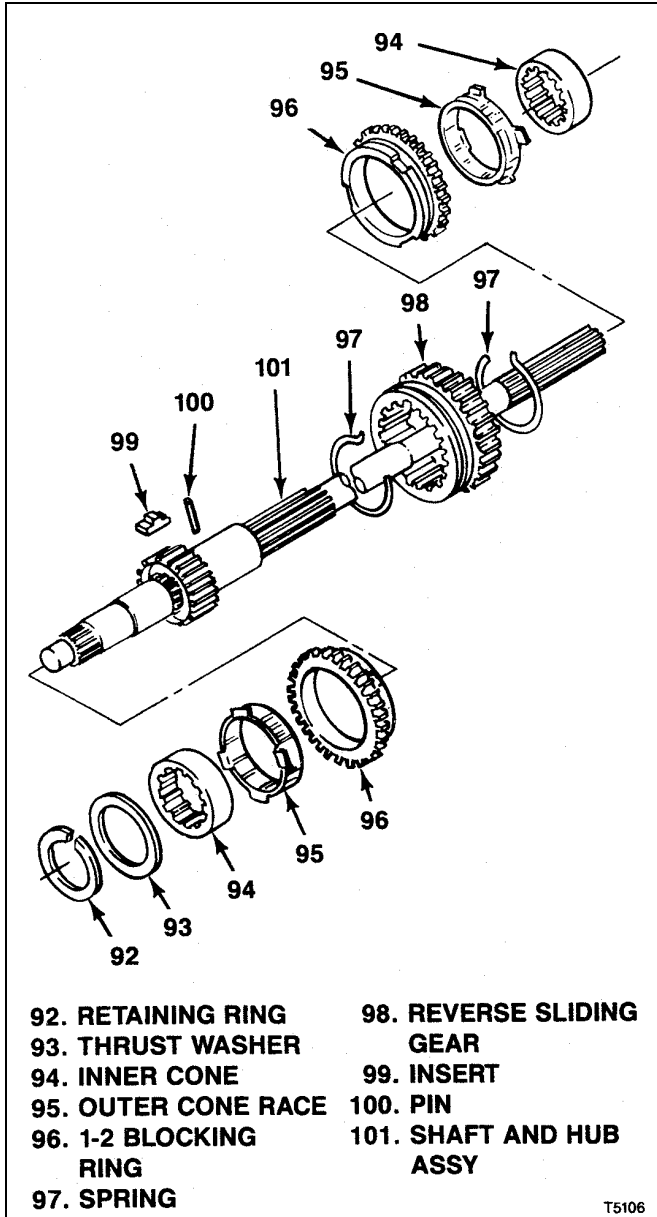
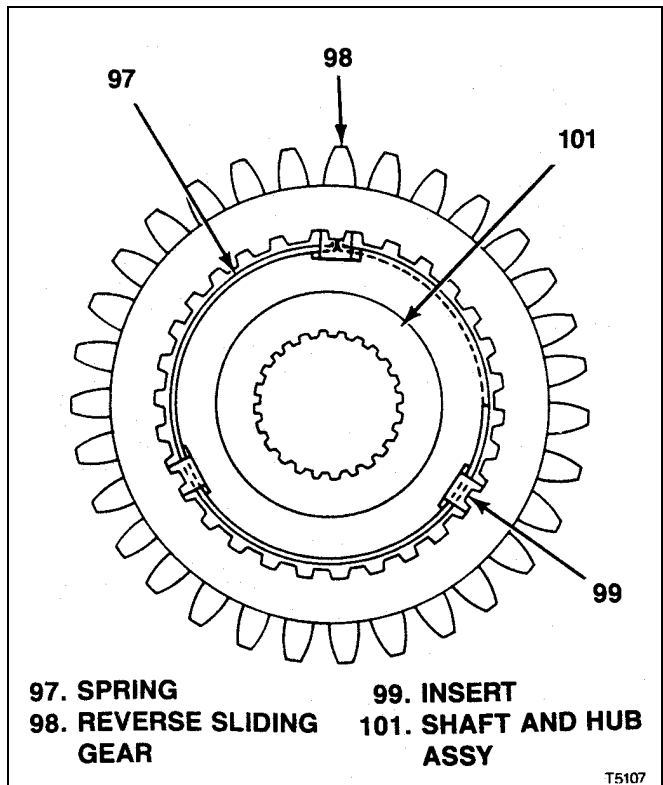

Figure 6-7. T5 WC Output Shaft Assembly
Figure 6-8. Reverse Sliding Gear Assembled
On work bench, assemble output shaft assembly as follows (see figure 6-7):
- a. Install pin (100) in shaft and hub assembly (101).
- b. Be sure to assemble reverse sliding gear (98) and hub on shaft and hub (see assembly (101), aligning marks made at disassembly figure 6-8) so that clutch teeth and part faces are assembled exactly as they were originally.
- c. Start reverse sliding gear (98) onto hub on shaft and hub assembly (101) to a position that will just permit installation of inserts (99). Install inserts (99) then engage clutch teeth fully.
- d. Hook one end of one spring (97) under one of the inserts (99) and wrap around inside, under all three inserts. Hook other end of spring under insert (see figure 6-8).
- e. At other side of assembly hook remaining spring (97) under opposite end and side of same insert (99) where step d was started buy wrap around inside in opposite direction from step d, under all three plates. Hook other end of spring under insert (99) (see figure 6-8).
- f. Position reverse sliding gear (98) and inserts (99) so that all inserts snap into neutral position.
- g. At each end of shaft and hub assembly (101) install 1-2 blocking ring (96), outer cone race (95) and inner cone (94), noting the correct position and location of these parts as shown in figure 6-7. Be sure to align blocking ring notches with inserts (99).
- h. At second speed end of shaft and hub assembly (101), install thrust washer (93) and retaining ring (92).